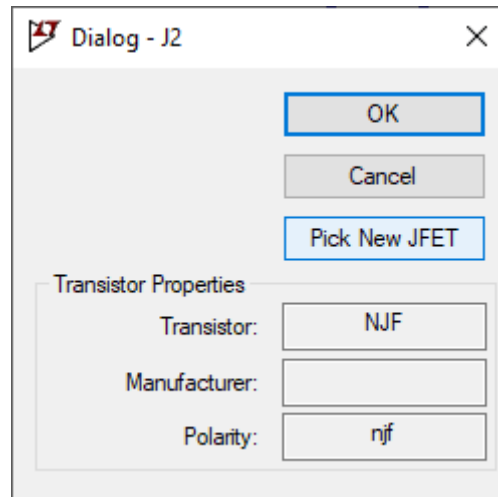

Fig. 2. N-Channel JFET
3. Right click on the transistor symbol then choose **(Pick New JFET)** as in Fig. 2.